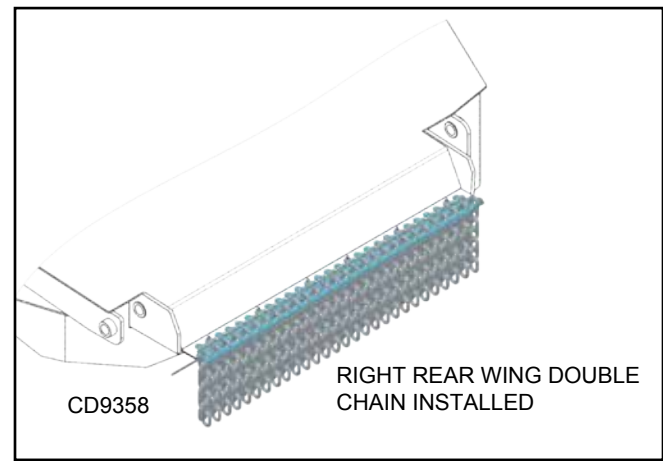

Figure 29. Double Chain
3. Compare removed bracket with new double lock brackets to identify correct new part. Refer to Figure 29 for example.